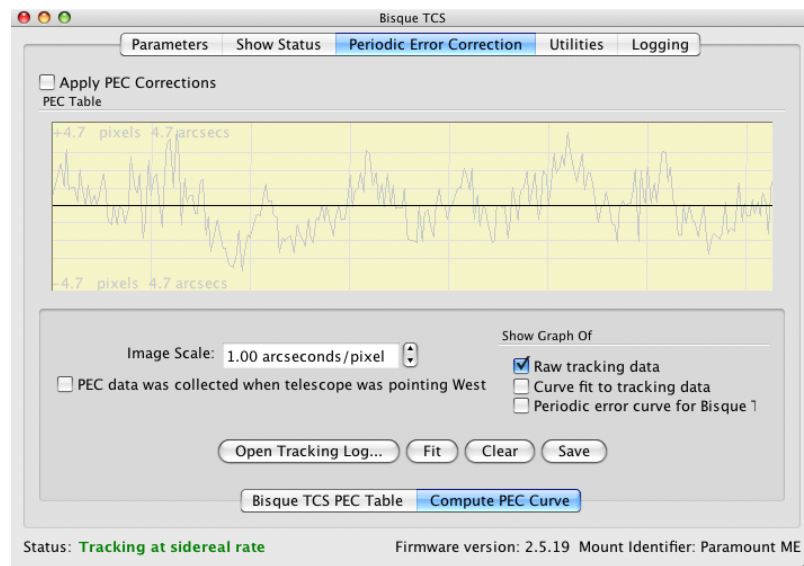

Figure 57: Graph of tracking log data.
5. Select the tracking log file and click **Open**. The "raw" periodic error data shown on Figure 57. Your results will vary, but the noisy-looking data is normal. For this example, each pixel of motion recorded in the tracking log equates to one arcsecond of error. The maximum and minimum error values are displayed on the right side of the graph (these values are not easily visible in Figure 57).